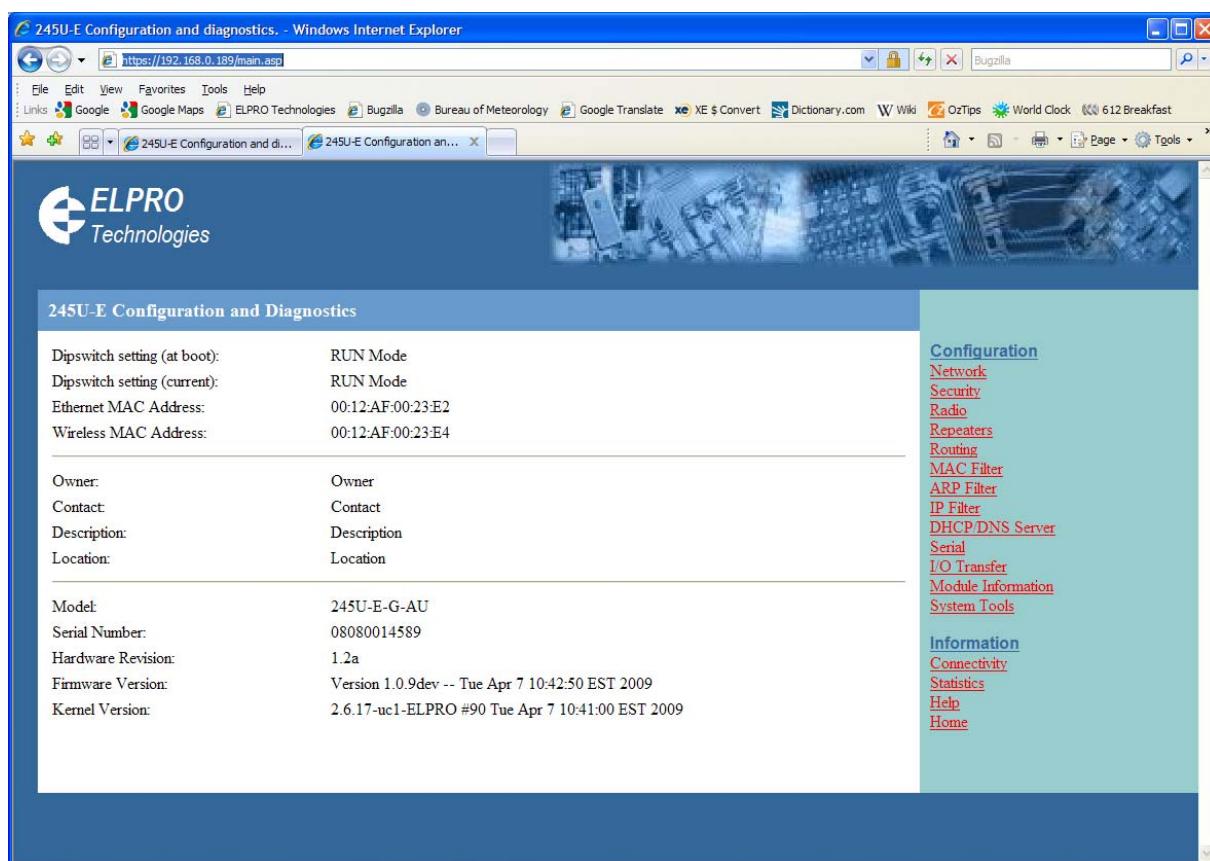

Figure 1 – Welcome Webpage
- You should now be connected to the main index page on the modem as per figure 1 above.